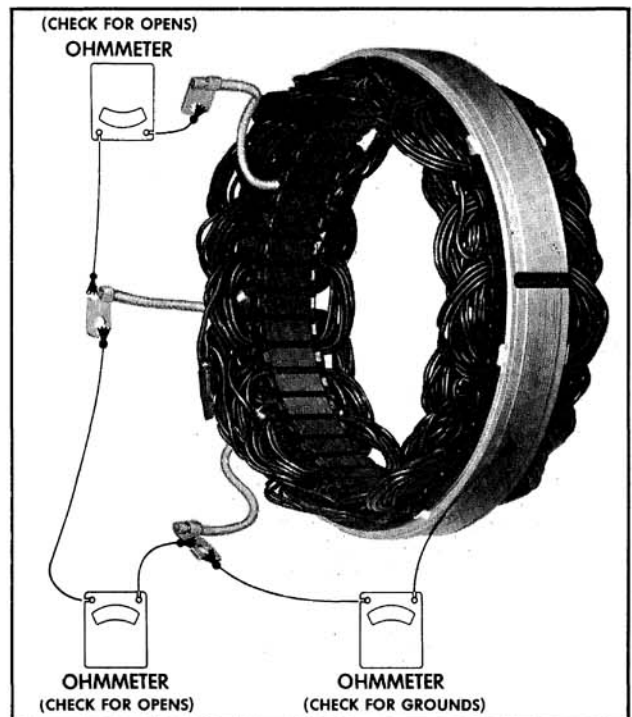

Fig. 13-35 Checking Stator
- A. Connect a 12-volt test lamp or an ohmmeter from a stator lead to the stator frame. If the lamp lights or the ohmmeter reading is low, the winding is grounded and the stator must be replaced. If lamp does not light or no ohmmeter reading can be obtained, repeat procedure on the other two stator leads. (Fig. 13-35)
- B. Connect a 12-volt test lamp or an ohmmeter between each pair of stator leads. If the lamp fails to light or the ohmmeter reading is high between any pair of leads, the stator winding is open and the stator must be replaced. (Fig. 13-35)